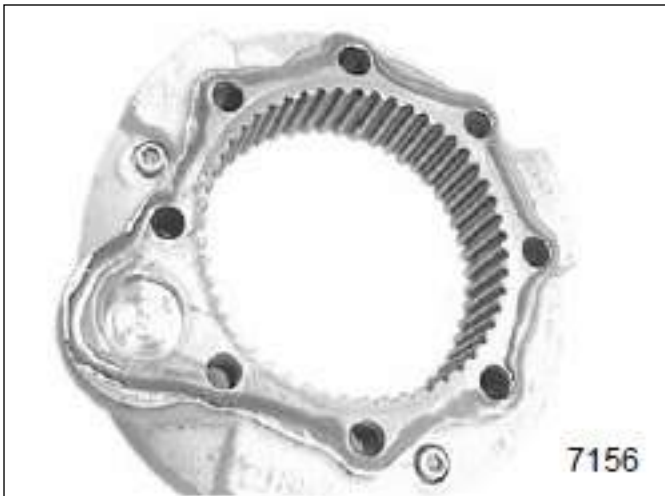

Figure 3-44: Apply Loctite to Brake Housing Face
11. Place a continuous bead of Loctite 638 glue on the brake housing, following the median line of the mounting bolt hole centers. **See Figures 3-44 and 3-45.**